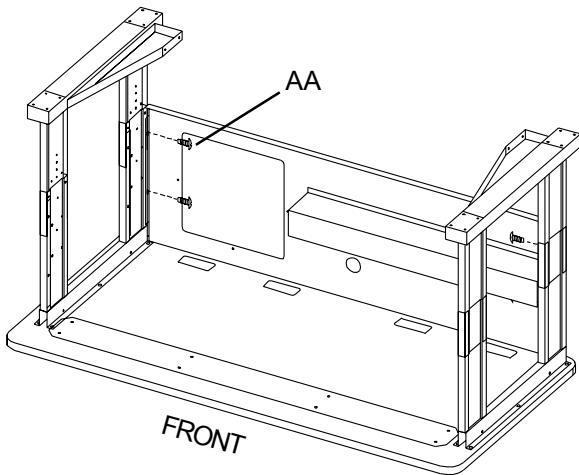
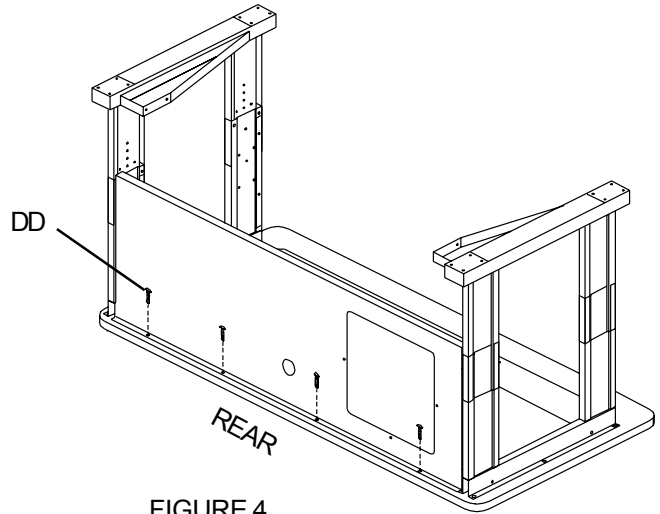

FIGURE 3
FIGURE 4
Loosely attach modesty panel to legs with screws (AA) as shown in **Figure 3**. Attach to wood top with screws (DD) as shown in **Figure 4**. Now tighten all screws into wood top and legs.